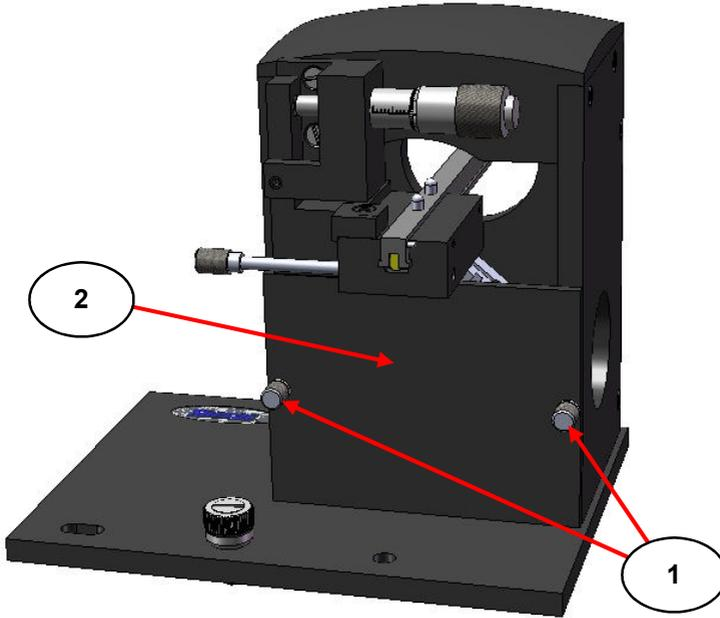

Fig 1. Front Metal Cover Plate of Minidiff Plus Optical Unit
2. Loosen the two front metal cover plate thumbscrews (1) by turning them anticlockwise and remove the front metal cover plate (2) to gain access to the internal flat mirror optics. (See Fig 1.)